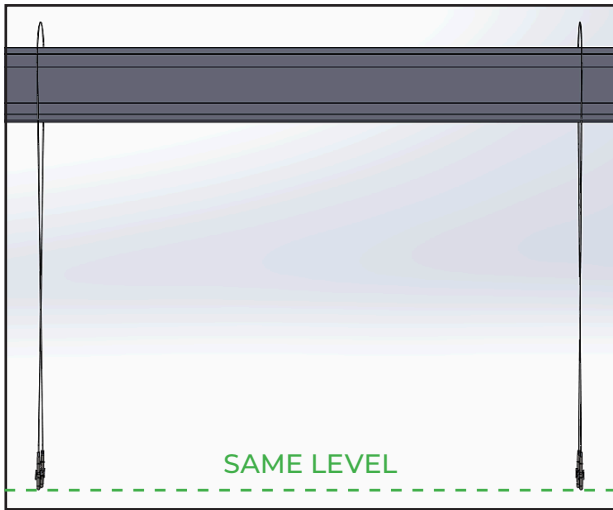
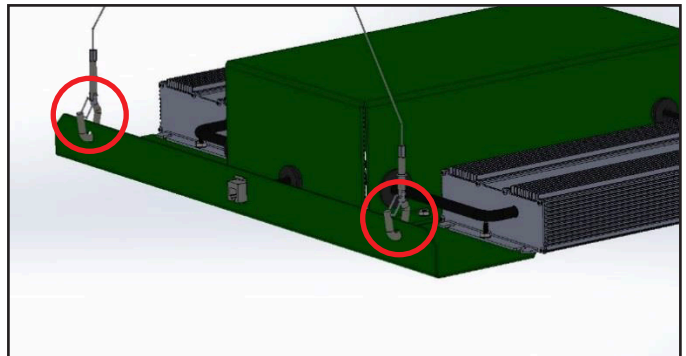

FIG. 3
FIG. 4
- When all four snap hooks are hanging at relatively the same height (FIG. 3), snap hooks onto driver box (FIG. 4).